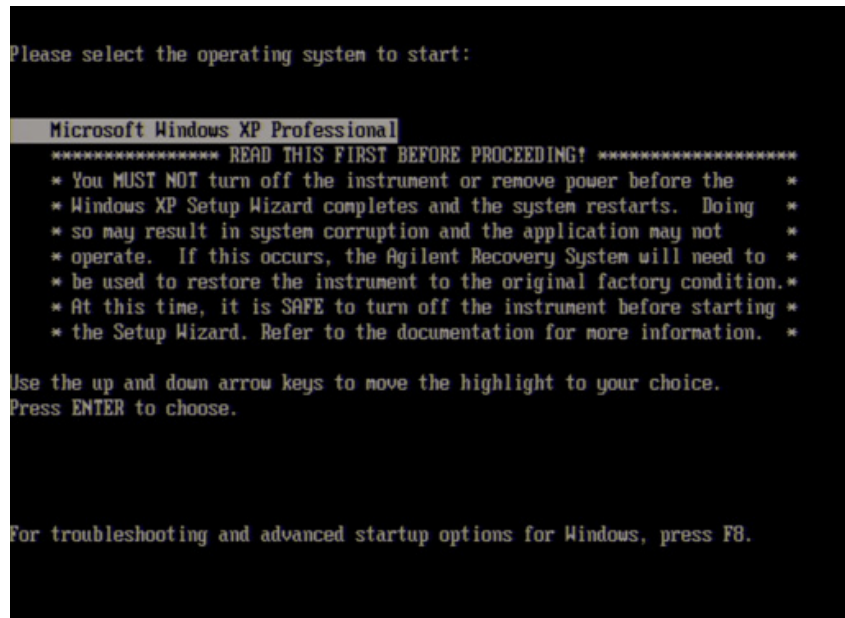

**Figure 12** System start up screen in Windows XP Pro for Embedded Systems (1/2)
**Step 2.** The screen as shown in the Figure 12 appears. Select **Windows XP Professional** and press **[Enter]**.